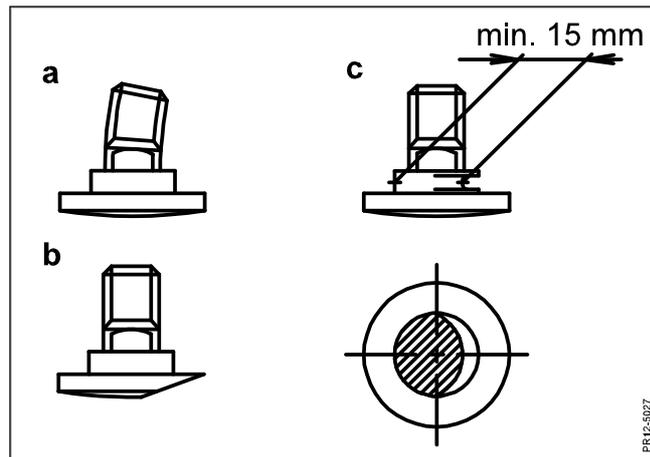

Fig. 5-4
- Fig. 5-4 Blade bolts must be replaced if: